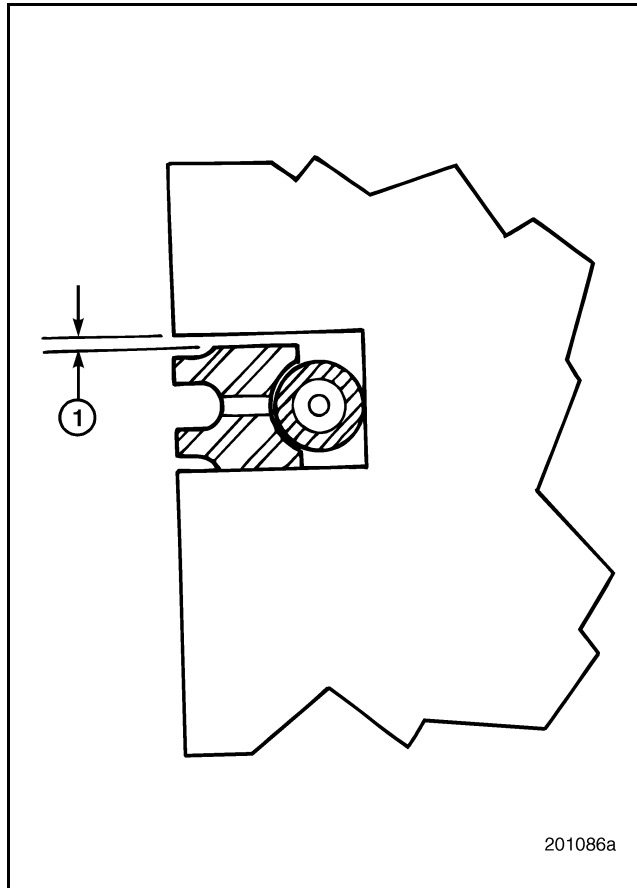

Figure 172 — Side Clearance Measurement
4. Perform steps 1, 2 and 3 on each piston. Refer to Figure 172.
- a. Using a thickness gauge, check for excessive wear of the oil control ring groove side clearance (1). Position a **new** oil control ring in the groove and insert a thickness gauge between the ring and upper land of the groove.